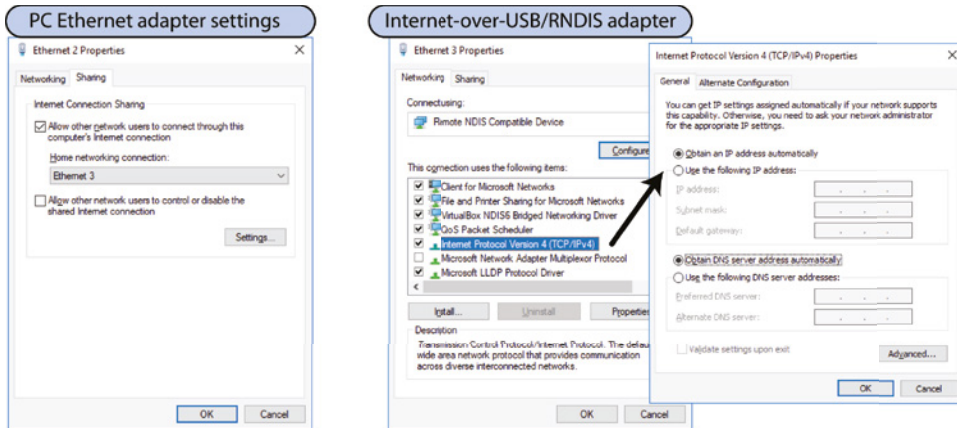

Figure 2-4: Configuring the network connection sharing properties under Windows
2. In the dialog that appears, as shown on the left side of Figure 2-4, click the Sharing tab at the top and enable the option "Allow other network users...."
3. In the drop-down list, choose your private LAN (e.g., referring to Figure 2-4, this is "Ethernet 3" in my case). Click OK.
- Double-click Internet Protocol Version 4. In this dialog, select “Obtain an IP address automatically” and enable “Obtain DNS server address automatically” (see Figure 2-4 on the right side).